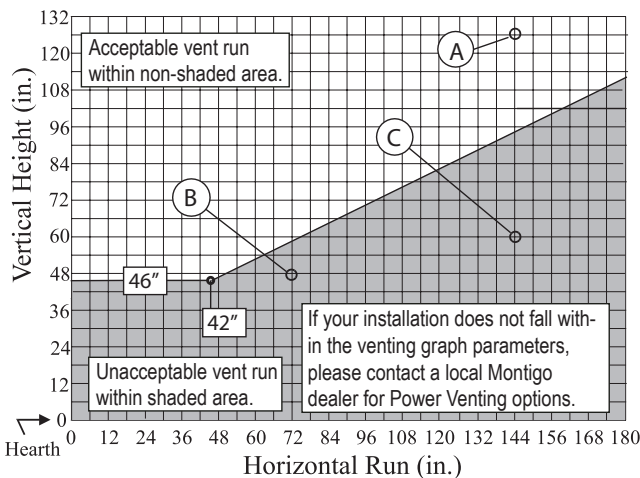

Figure 12. HP38PR\* or HL38PR\* Top Vent Venting Graph for wall mounted terminations.
- Once the proposed venting layout has been determined refer to either **Figure 12, 12a, 14, or 14a** to ensure the layout is acceptable.
- Venting runs *must* fall within the limits set by the venting graphs, see **Figure 12 or 12a**.
Measure the vertical height from the fireplace hearth to the centre of the termination and the horizontal run from the fireplace flue collar to the wall flange of the termination. Plot on the Venting Graph **Figure 12 or 12a** with an 'X'.
Figure 13. HP38PR\* or HL38PR\* Top Vented, wall mounted installation with one 90° bend. The vent run must comply with Venting Graph for Top vent, wall mounted terminations, Figure 12.
**Figure 13b.** *H38PR\**, *HL38PR\**, or *HP3PR\** Top Vented, wall mounted Multi-elbow installation. See Venting Graph for Top vent, wall mounted terminations, Figure 12 or 12a.
**Figure 13c.** *H38PR\**, *HL38PR\** or *HP38PR\** Top Vented, wall mounted Retracted Multi-elbow installation. See Venting Graph for Top vent, wall mounted terminations, Figure 12 or 12a.